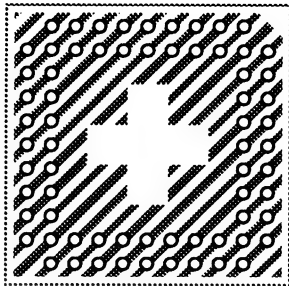

FIGURE 9 — HOLE SIDE OF A MARKED 68-PIN SOCKET
- The alignment mark on the illustration (fig. 9), just as on an actual socket, may be difficult to see.